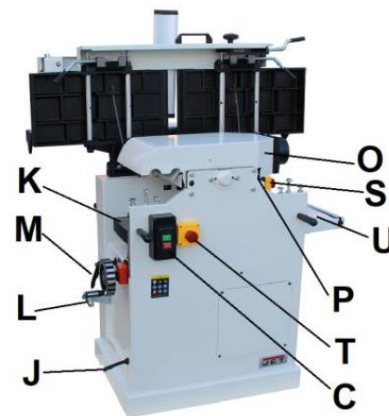

Fig 2
- J.....Mains plug (not Shown) (Fig.2)
The purpose of 4 carry handles (R, Fig. 2) is just to unload the machine from the pallet when unpacking.
The power feed can be engaged and disengaged with handle (L, Fig 2).